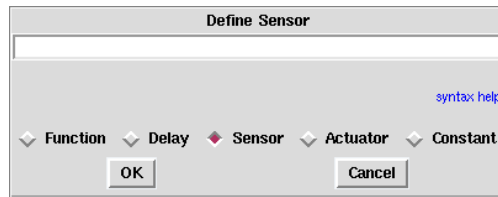

Figure 1.2: Define Sensor
- from the algorithm window, click on the + green button. It opens a dialog window, check **Sensor** (*cf.* figure 1.2). Type the sensor name and optionally a list of parameters for the sensor. For example type `input`, then